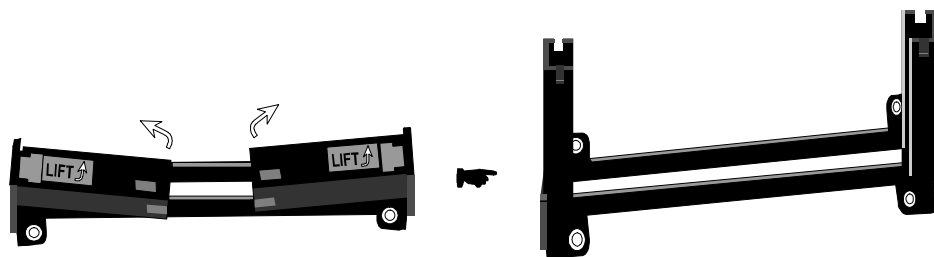

Figure 6
- 1 First, please refer to figure 6 below, and follow the direction to lift up the fixed foldable pentium® II/III Retention Mechanism. This pre-installed device is designed for you to install Pentium® II/III CPU more easier and to avoid any damage on the board due to overtightening the four screws.
Figure 7 shows the layout of Slot 1 and the holes for mounting the Heatsink base piece (figure 6).